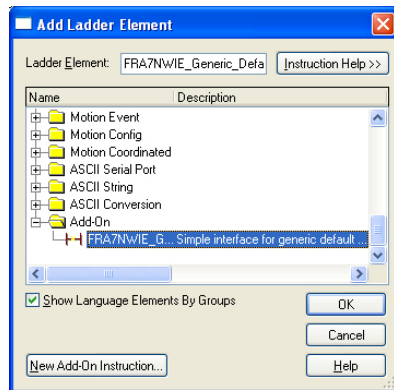

Figure 90: Add Generic Default Add-On Instruction
- 8) Select the generic default I/O add-on instruction in the Add-On folder. Refer to Figure 90.